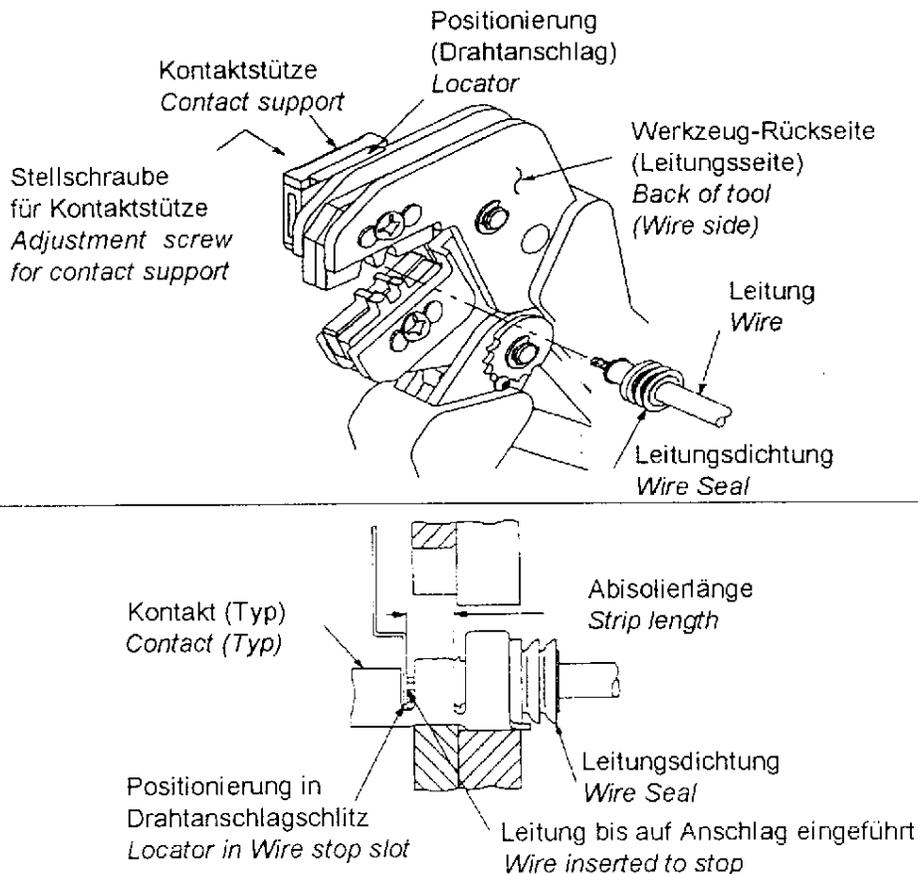

Figure 3
*Refer to the table in Figure 1a and select wire of the specified size and insulation diameter. Strip the wire to the length indicated in Figure 1a, taking care not to and identify the appropriate crimp section according to the wire size marking on the tool. Refer to Figure 3 and proceed as follows:*
3. *Position the contact so that the mating end of the contact is on the locator side of the tool, and so that the open "U" of the wire and insulation barrels face the top of the tool. Place the contact up into the nest so that the movable locator drops into the slot in the contact. Refer to Figure 3. Butt the front end of the wire barrel against the movable locator.*
5. *Insert stripped wire into contact insulation and wire barrel until it is butted against the wire stop, as shown in Figure 3.*
*The crimped contact may stick in the crimping area, but the contact can be easily removed by pushing downward on the top of the locator (see Figure 3).*